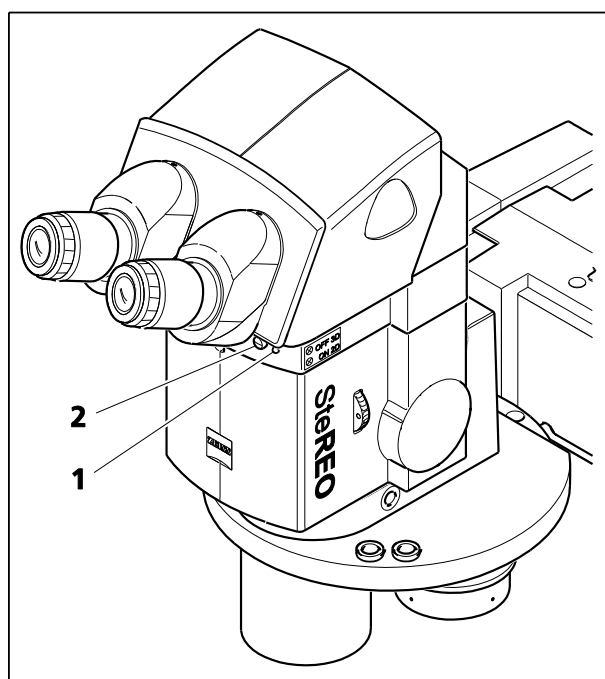

Fig. 41 Y intermediate tube S mot
The stereo observation over the left and right channel remains unaffected. The LED (Fig. 41/1) is dark.
50 % of the light from the right channel is conducted to the left channel for a binocular, but two-dimensional observation. The LED (Fig. 41/1) is lighting blue.
- Irrespective of the automatic switching function, the switching position can be changed by briefly pressing the button (Fig. 41/2). By switching the objective nosepiece, the Y intermediate tube S mot will return to the automatic operation mode.